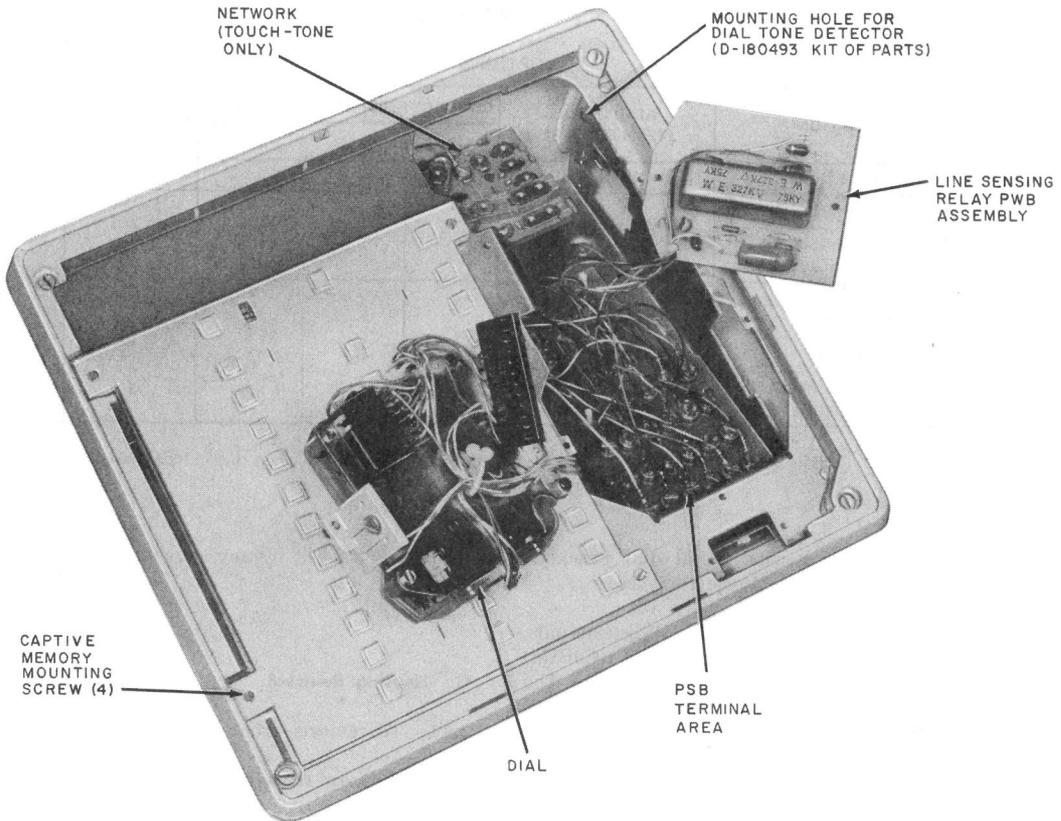

Fig. 3—2870B1M Dial, View to Show Terminal Area
- (1) Remove the housing (paragraph 3.13), and access PSB terminal field (paragraph 3.10).
- (2) Insert the dial tone detector board assembly from the back of the dial, so that the two tabs on the board assembly fit into the slots in the chassis (Fig. 3).
- (3) Insert the self-threading screw through the side of the chassis to secure the board in position.
- (4) Connect the dial tone detector as shown in Table B.
- (1) Remove faceplate (paragraph 3.11 or 3.12).
- (2) Loosen the captive screw at the bottom of the cover around the dial and remove the cover.
- (3) Disengage dial from chassis (paragraph 6.05 or 6.06).
- (4) Loosen the four captive memory mounting screws (Fig. 3).